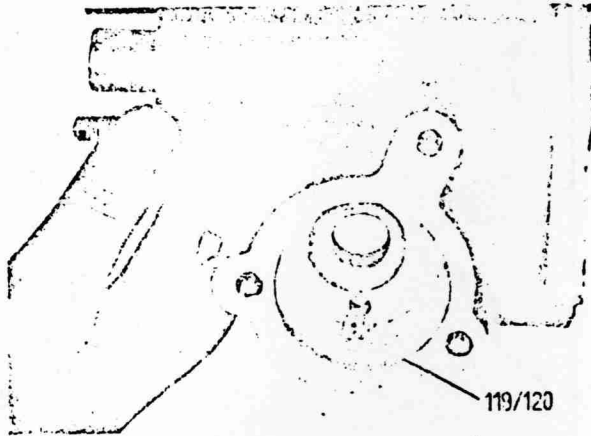

Fig. 19
1. Insert spring (620) and pin (619) into the cross bore of the rear housing (Fig. 19).